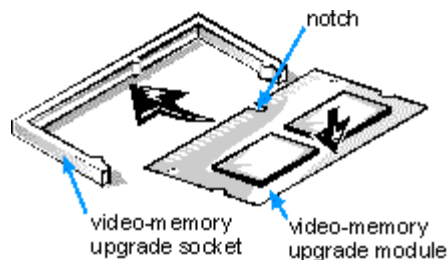

Figure 6-9. Installing a Video-Memory Upgrade Module
3. Orient the module as shown in Figure 6-9. Then install it in the socket.